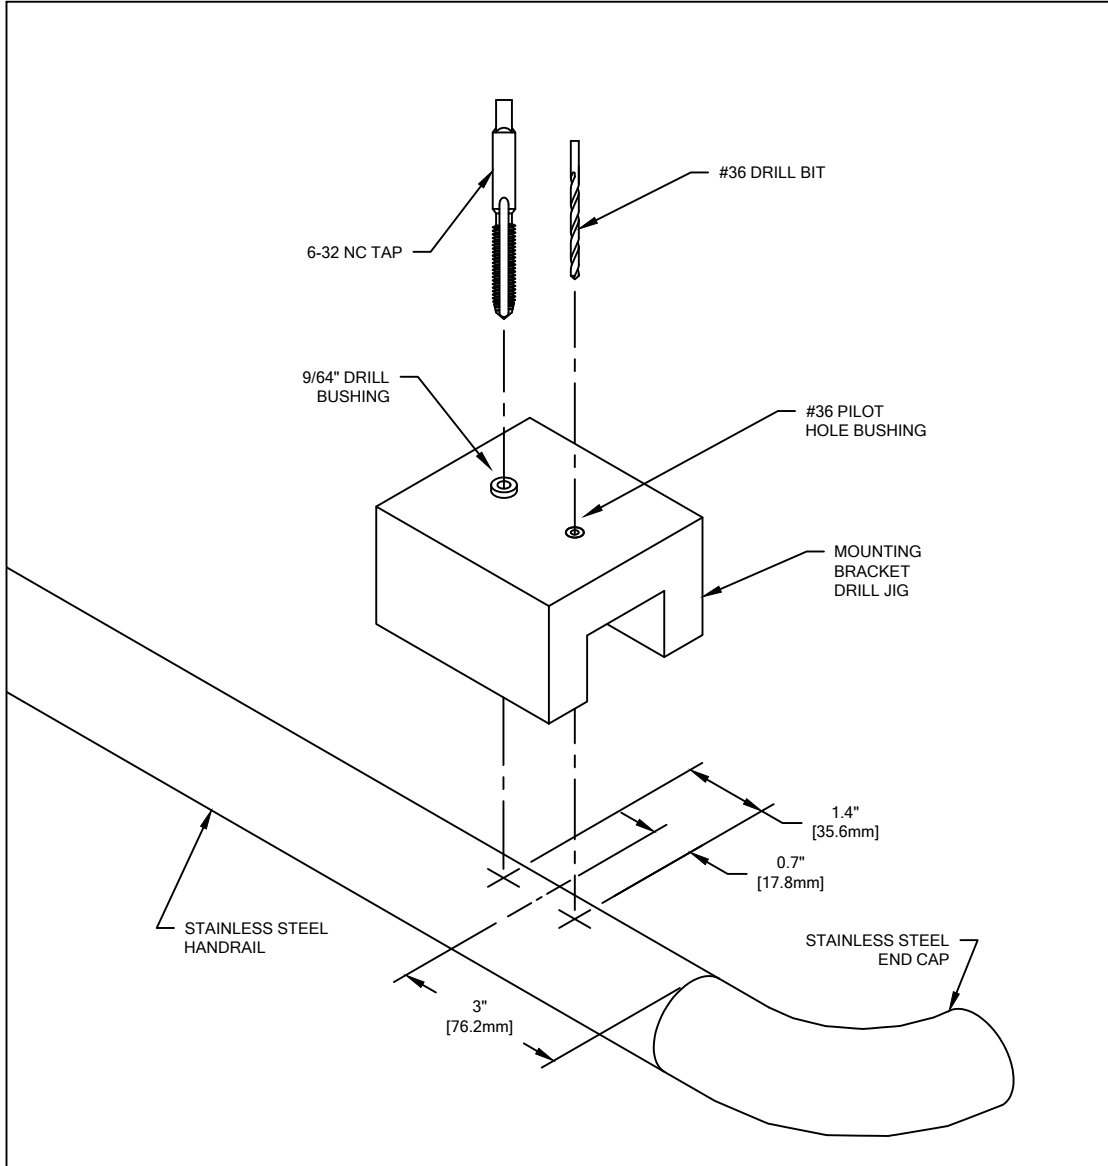

FIGURE 1.
- DRILL PILOT HOLES IN BOTTOM SURFACE OF STAINLESS STEEL HANDRAIL AS PER MOUNTING BRACKET DRILL JIG INSTRUCTIONS (SEE FIGURE 1). MOUNTING BRACKETS ARE TO BE LOCATED AT A MAXIMUM OF 32" [812.8mm] O.C. AND NO LESS THAN 3" [76.2mm] FROM END OF STAINLESS STEEL HANDRAIL. CAUTION: BE SURE THE HANDRAIL DOES NOT ROTATE WHEN DRILLING PILOT HOLE.
5. FASTEN THE STAINLESS STEEL HANDRAIL TO THE WALL BRACKETS IN SUCCESSION BY INSERTING TWO (2) #6-32 X 3/4" S/S PHILLIPS FLAT HEAD MACHINE SCREWS THROUGH THE UNDERSIDE OF THE BRACKET INTO THE STAINLESS STEEL HANDRAIL.
MOUNTING BRACKET DRILL JIG INSTRUCTIONS. REFER TO FIGURE 1.